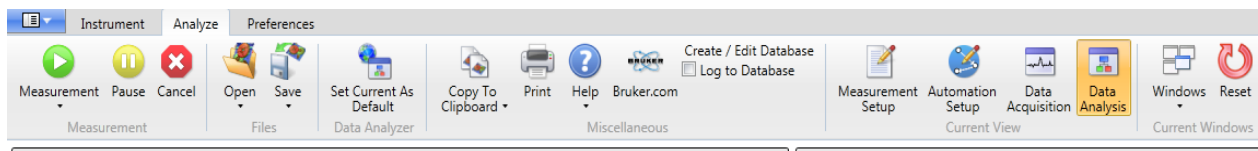

Figure 6-20: Ribbon with the Analyze Ribbon Tab Selected
Ribbon This taskbar (see Figure 6-20) provides access to all of the functions available in Vision64. Note that the most commonly used buttons are permanently displayed to the left and right of each tab on the Ribbon.
Ribbon Tabs Click these tabs to make the Ribbon display the **Analyze** Tab (see Figure 6-20), the **Instrument** Tab, or the **Preferences** Tab. You can perform the functions on these tabs by clicking a button or by using keyboard shortcuts. Some tabs include split-buttons that provide multiple related commands.
- 2 Make your settings in the **Units** dialog box (see Figure 6-20), and then click **OK**.